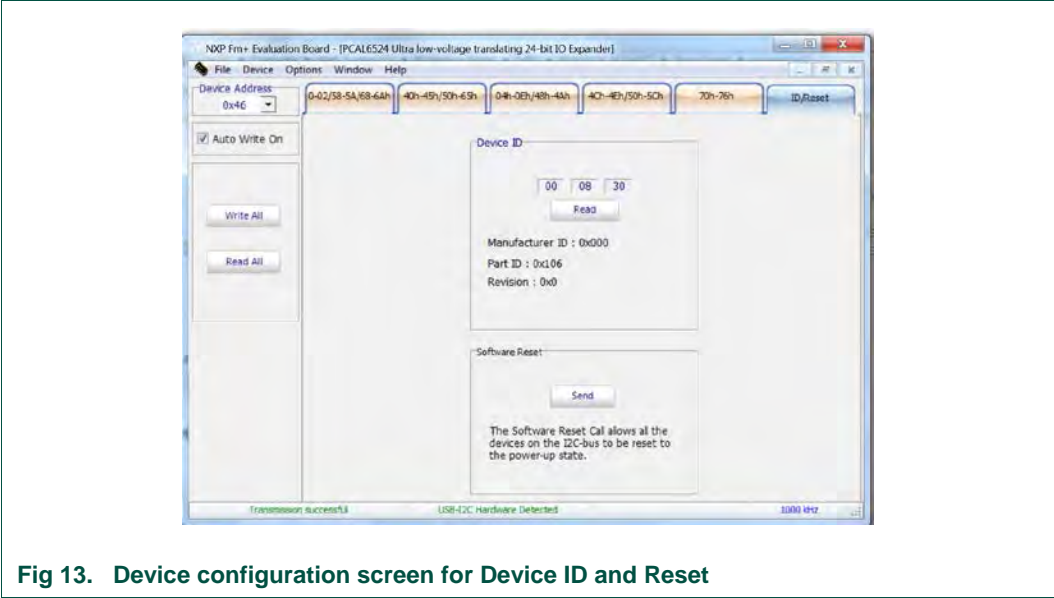

Fig 13. Device configuration screen for Device ID and Reset
7. Sixth group registers read or write are shown in Fig 13.
| Fig 13. | Device configuration screen for Device ID and Reset | 14 |